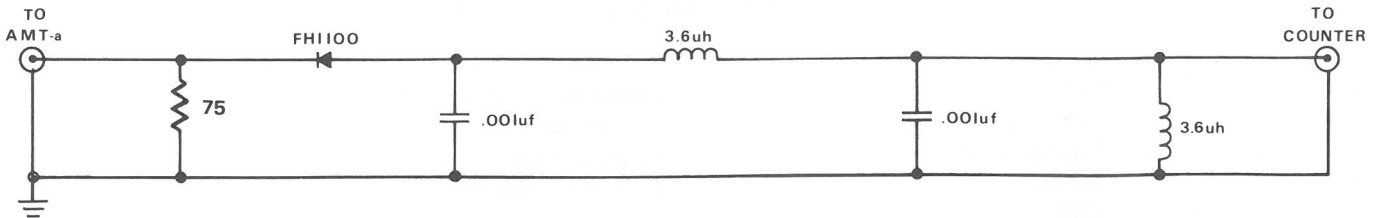
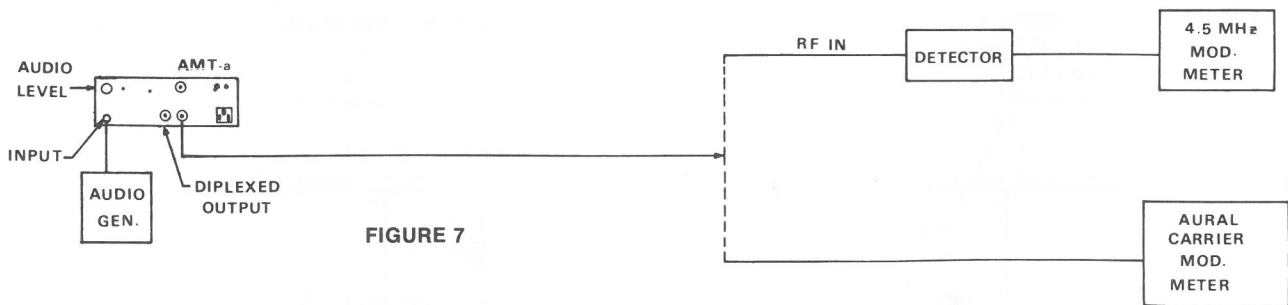

FIGURE 6 DETECTOR
FIGURE 7
- Connect the DIPLEXED OUTPUT through a detector to a counter with 100 Hz resolution. See Figure 6. Tune L1 (Aural Board) for a reading of 4500.0 KHz \pm 1 KHz on the counter.
- An FM Modulation meter tuned to 4.5 MHz through a detector (Figure 6) to the DIPLEXED OUTPUT. Figure 7. Set the AMT-a's AUDIO LEVEL Control so that the modulation meter reads 25 KHz deviation. Now adjust R22 (Aural Board) so that the over-modulation light just comes on.